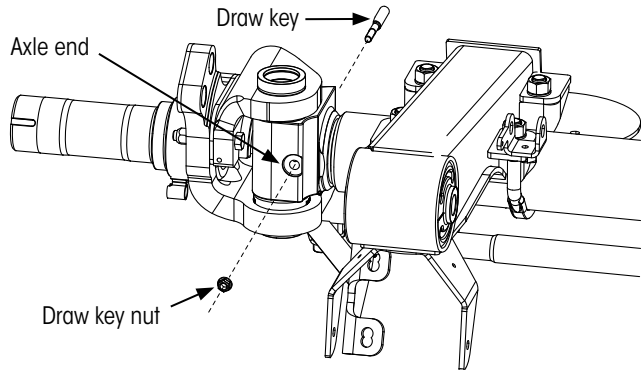

Figure 27: Installing draw key
10. **Install** the draw key nut (Figure 27) and **tighten** to the specified torque1.